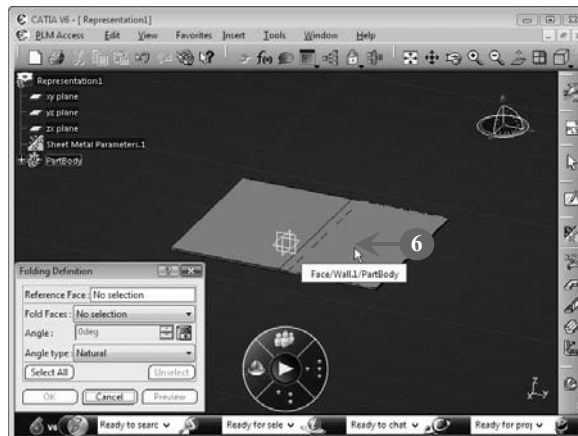

FIGURE 6.68
The **Folding Definition** dialog box opens (Figure 6.68).
6. Select the base wall, as shown in Figure 6.68: